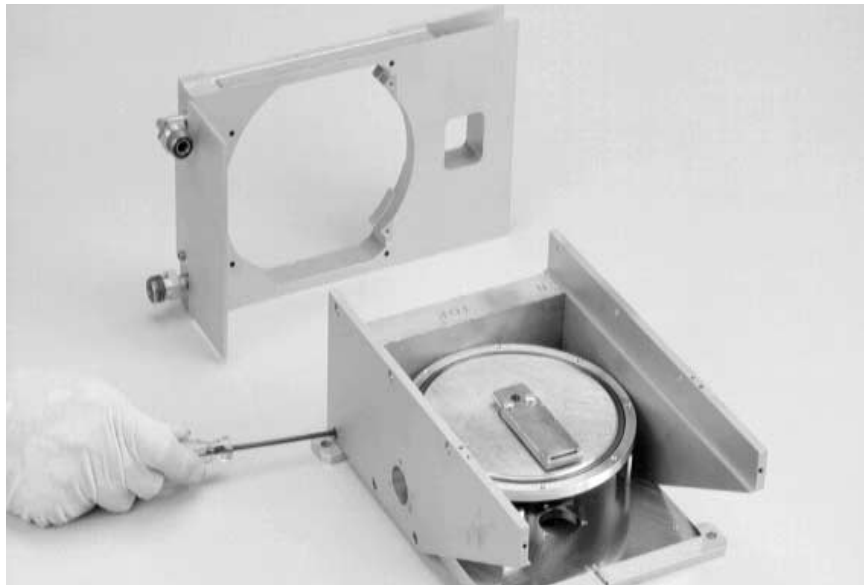

Figure 6-10. Removing the screws that secure the LH pole piece to the base plate
Step 14: Remove the screws that secure the pole pieces to the base plate (see Figure 6-10).